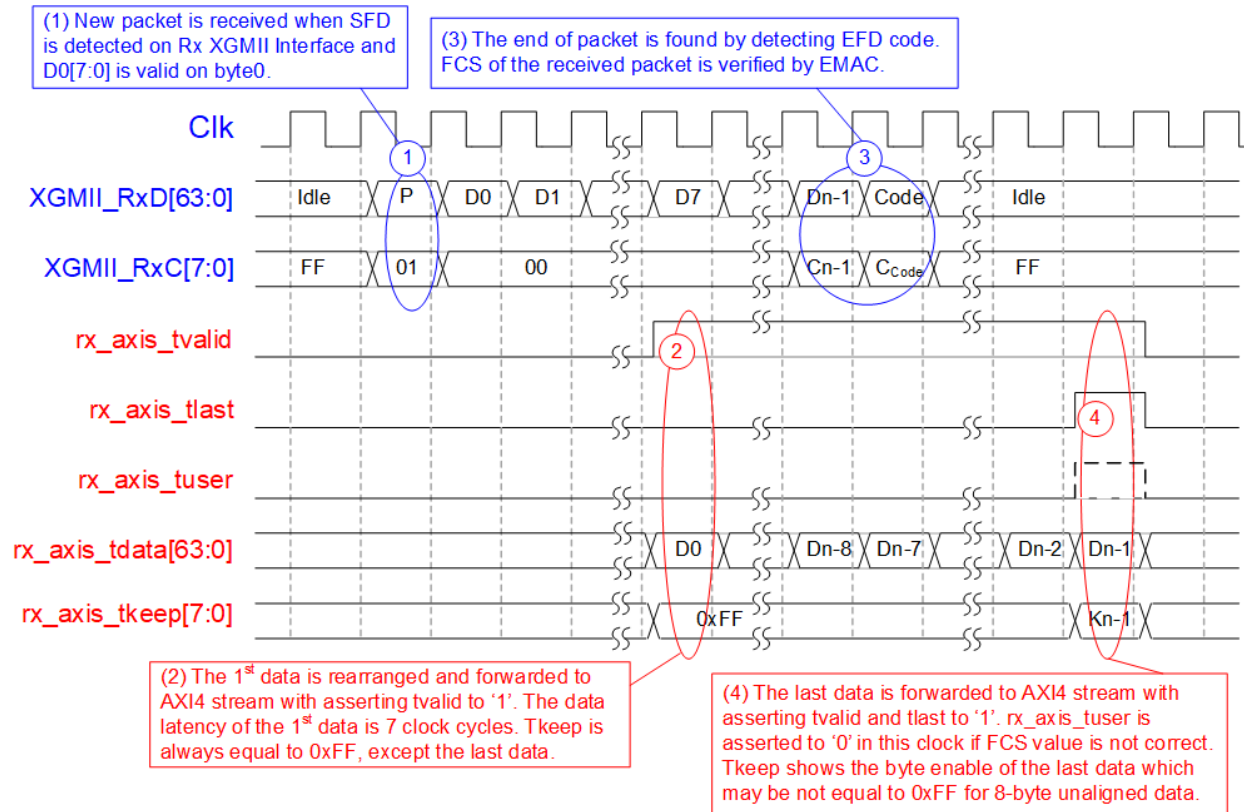
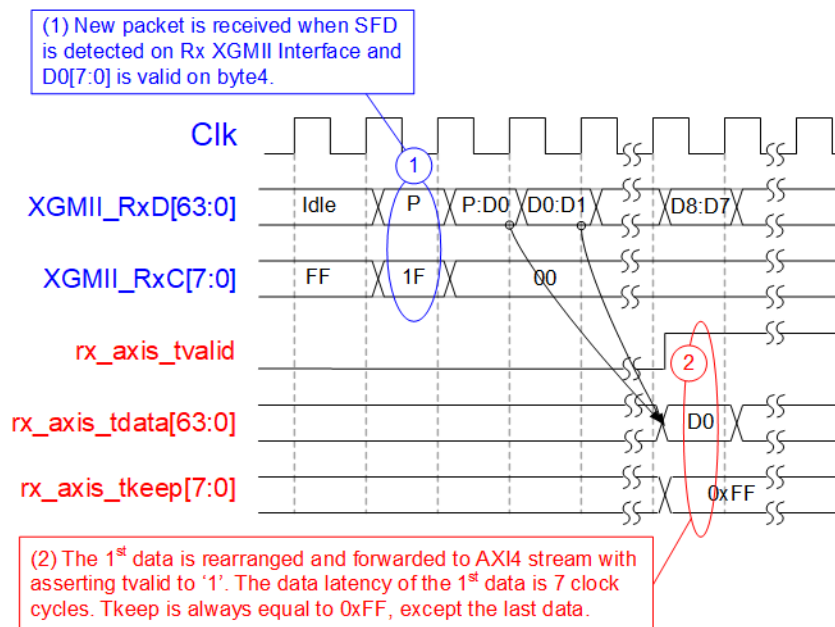

Figure 5: Received packet timing diagram when the 1st data is on byte0
Figure 6: Received packet timing diagram when the 1st data is on byte4
The examples to receive the data stream from XGMII to AXI4 stream are shown in Figure 5 and Figure 6. Two examples are displayed to show the different format of the 1st byte data which may be placed on byte0 or byte4. Though the 1st data position is different, the latency of the output (measured from the 1st data) in both examples are equal to 7 clock cycles. The details of timing diagram is as follows.
- (1) The IP detects SFD code on XGMII interface. The IP rearranges the received packet following the position of the SFD code. The 1st data is received on XGMII_RxD bus in the next clock for 8-byte (Figure 5) or 4-byte (Figure 6).
- (2) After receiving the 1st data, the IP sends the 1st data which is reformatted to place the 1st byte on byte0 only with 7-clock cycle latency time. Tkeep is always equal to 0xFF, except the last data which depends on the number of valid bytes.
- (3) After the IP detects EFD code on XGMII interface, FCS is loaded to compare with the calculated FCS value.
- (4) After that, the IP asserts rx_axis_tvalid and tvalid to '1' with the last data on tdata bus. In this clock, rx_axis_tuser is asserted to '1' if the received FCS is equal to the calculated FCS. Otherwise, tuser is de-asserted to '0' for error status.